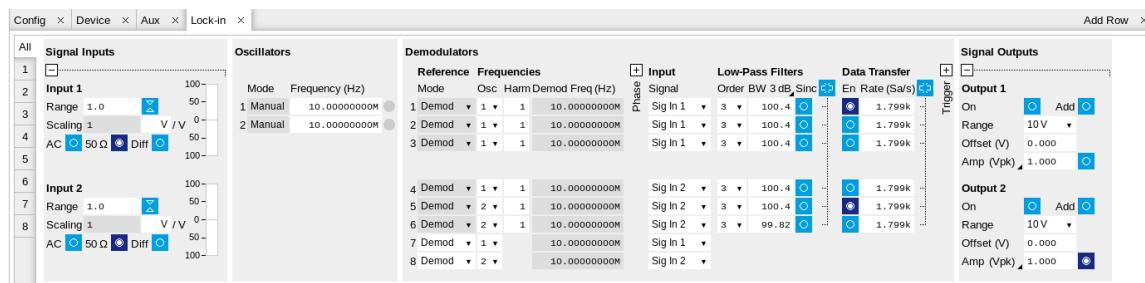

Figure 4.7. LabOne User Interface Lock-in tab - Parameter table (All)
The parameter table (see Figure 4.7) consists of 4 vertical sections: Signal Inputs, Oscillators, Demodulators and Signal Outputs. The Demodulators section gives access to all the settings of demodulators 1 to 6 that can be used for measurement, and of demodulators 7 and 8 that can be used for external referencing. Demodulators 1 to 3 (4 to 6) are connected to Signal Input 1 (2).